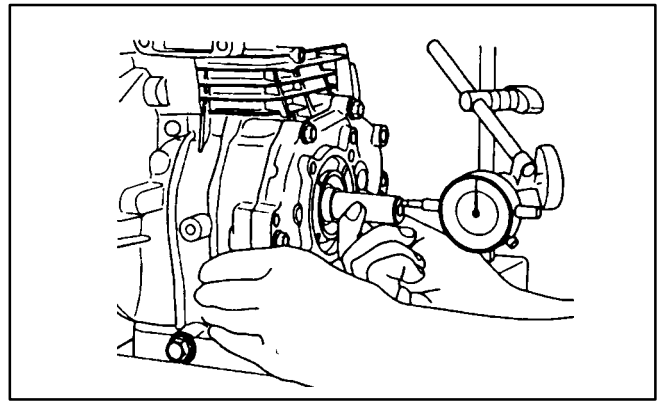

FIGURE 10-33. SIDE CLEARANCE OF CRANKSHAFT
1. Set a dial gauge, as shown in Figure 10-33, push the shaft in and measure the clearance.